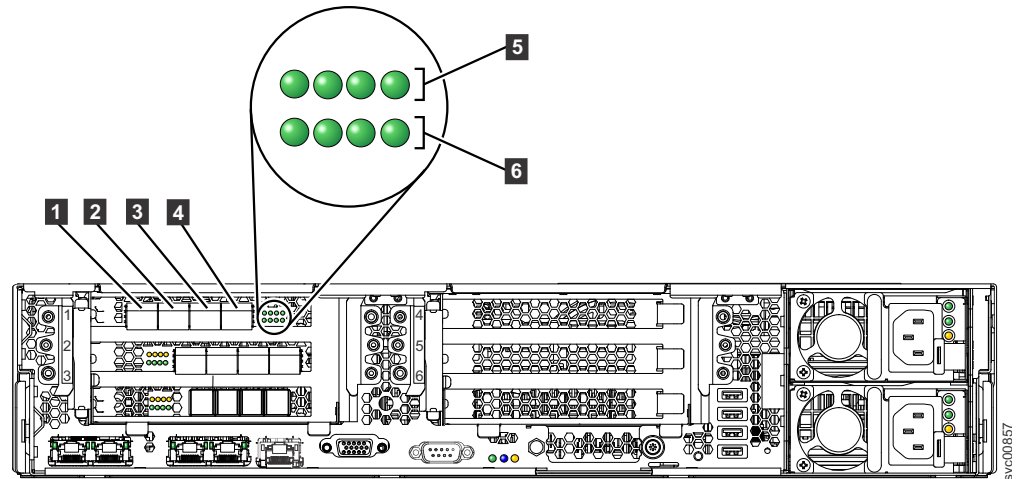

Figure 41. Fibre Channel ports
4. Optional: If the Fibre Channel feature is installed, you can connect Fibre Channel cables to the Fibre channel ports as required by your configuration. Figure 41 shows a example of a 2145-DH8 with the Fibre Channel feature installed in slot 1.